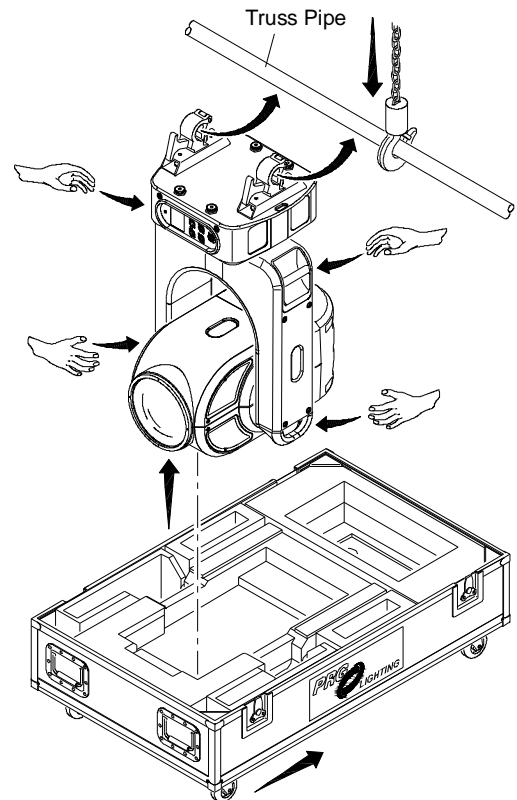

Figure 2-4: Removing Luminaire From Case
- Step 2. Roll case to mounting location as required (**Figure 2-4**).